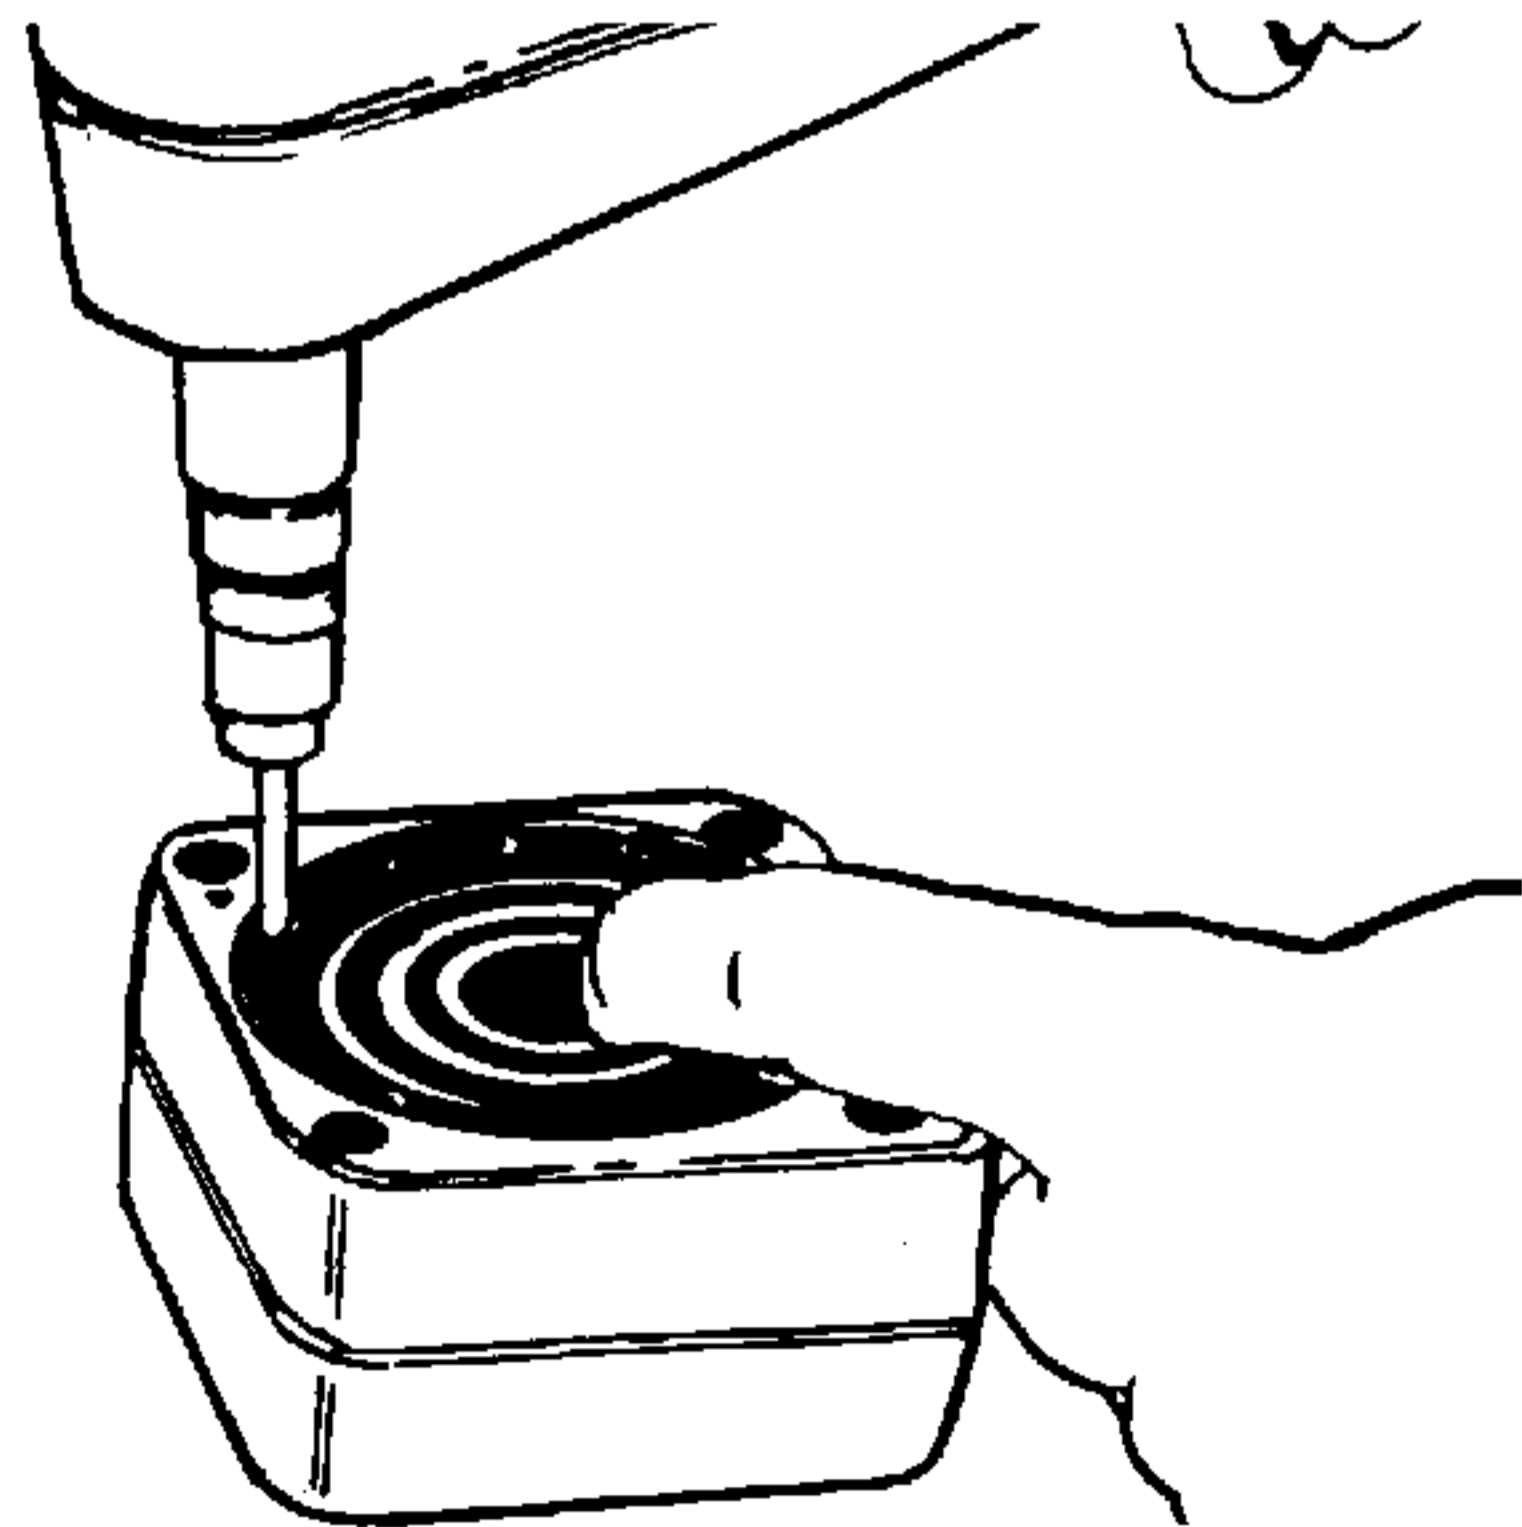
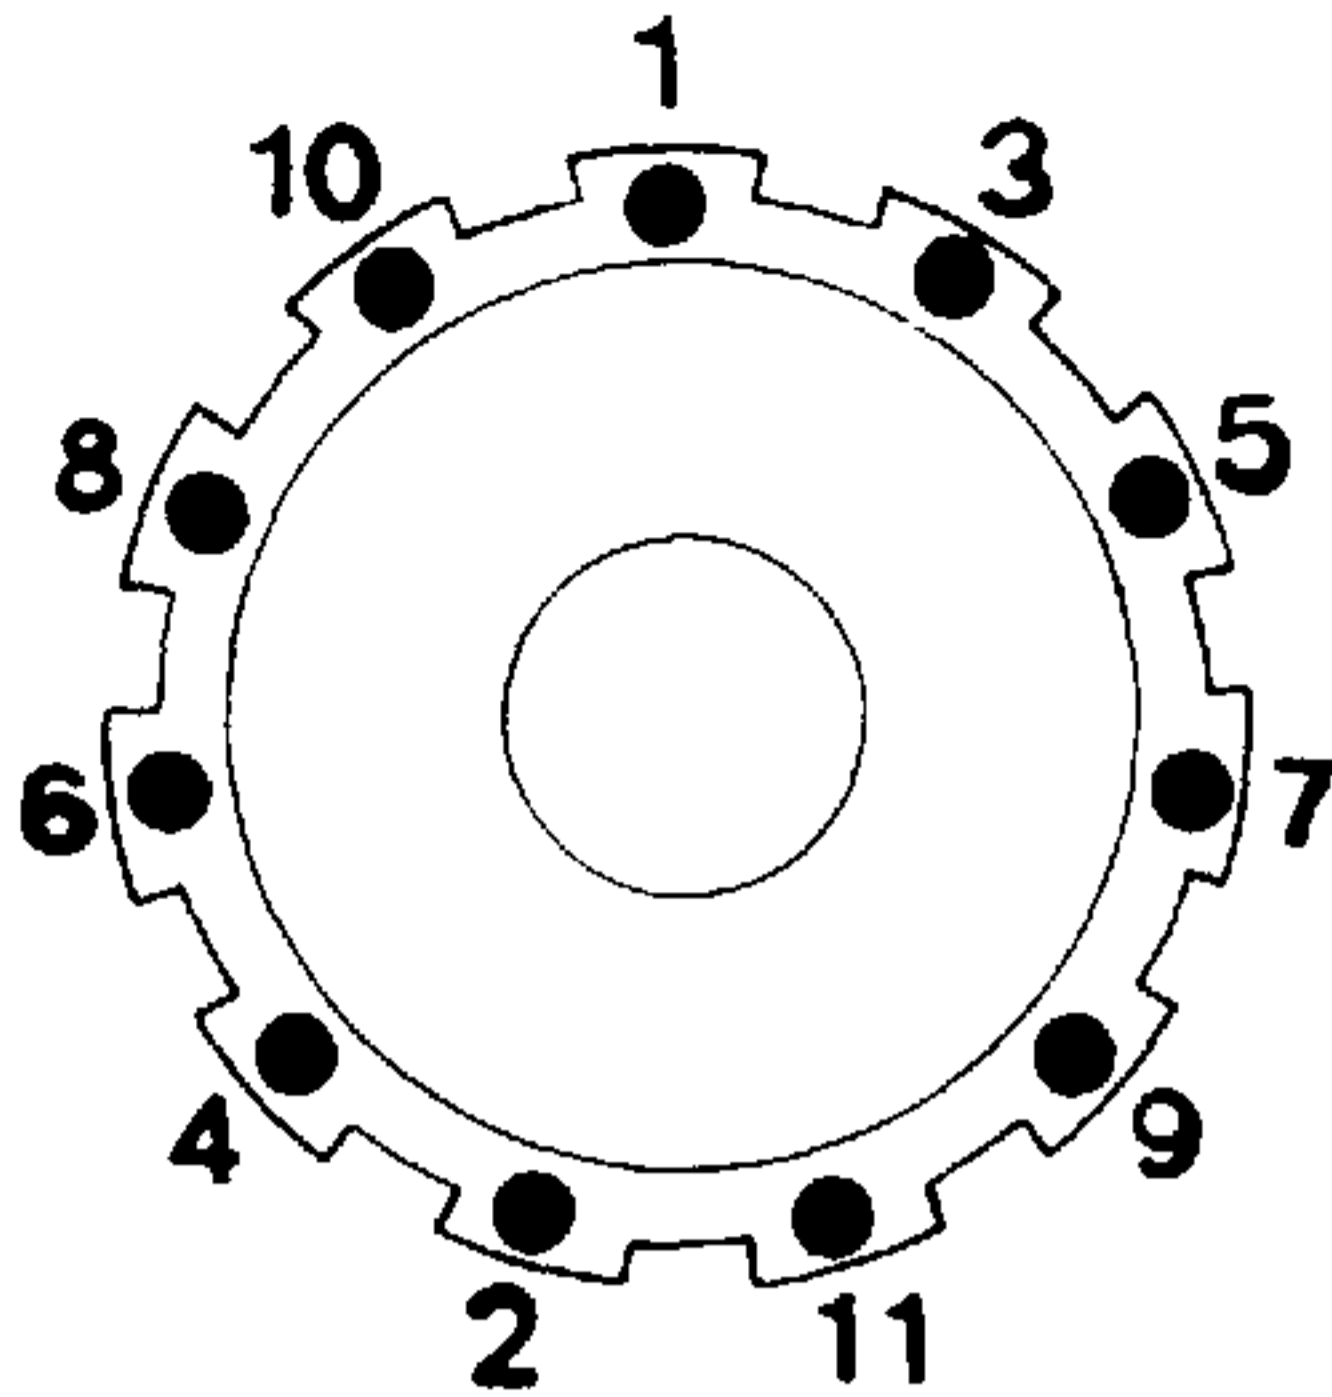

Figure 4-65. Tightening Cap Screws.
Figure 4-66. Cap Screw Tightening Sequence.
Push down on the metering package until the drive plate is on the flat surface. Be sure the cap screws (16) are loose enough to allow the commutator ring (20) and drive plate (24) to align themselves concentrically in the metering ring bore. Gradually tighten the eleven cap screws, following the sequence shown in Figure 4-66, at least twice until a final torque of 11-13 in-lbs (1.24 to 1.47 N·m) is reached. See Figures 4-65 and 4-66. Remove the metering package and shims from the metering ring. Discard the shims.